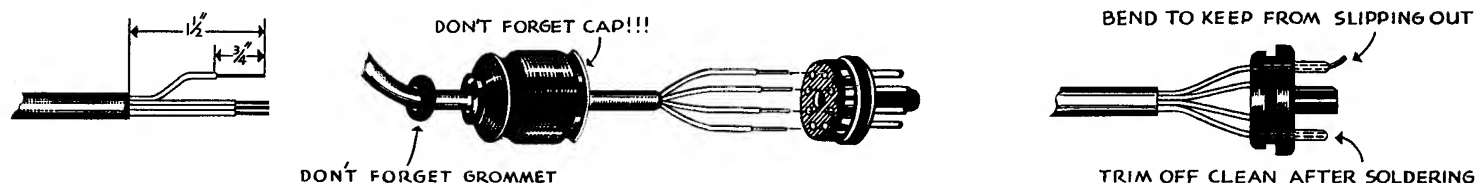

Figure 6
- ✂ Connect a 1 K Ω resistor (brown-black-red) between lug D1 (NS) and pin 5 (S) on socket V4.
- ✂ Connect a 100 Ω resistor (brown-black-brown) between terminal strip B (S) and control lug J1 (NS).
- ✂ Connect a 100 K Ω resistor (brown-black-yellow) between control lug J1 (S) and lug C1 (NS) (use sleeving).
- ✂ Connect a 1 K Ω resistor (brown-black-red) between lug C1 (NS) and pin 5 (S) on socket V3.
- ✂ Connect one of the matched pair of 47 K Ω 2 watt resistors (large yellow-purple-orange) between lug C2 (S) and pin 2 (NS) on socket V2.
- ✂ Connect a .25 μ fd (large tubular) condenser between pin 2 (S) on socket V2 and lug C1 (S) (use sleeving). Again note that "outside foil," if marked, may be disregarded.
- ✂ Connect the other 47 K Ω 2 watt resistor (large yellow-purple-orange) of the matched pair between lug D2 (S) and pin 5 (NS) on socket V2.
- ✂ Connect a .25 μ fd condenser between pin 5 (S) on socket V2 and lug D1 (S) (use sleeving).
- ✂ Connect a .05 μ fd condenser between pin 5 (S) on socket V1 and pin 1 (S) on socket V2.
- (X) Connect another .05 μ fd condenser between pin 6 (S) on socket V1 and pin 4 (S) on socket V2.
- (X) Install the octal plug on the end of the cable. Remove the overall insulation for about 1 1/2". Remove the insulation from each wire for about 3/4". Slip the plug cap on the cable with the grommet toward the chassis end. Arrange the wires in a circle and slip wire ① in the hole marked 1, wire ② in the hole marked 2, etc. Make sure the wire sticks out beyond the pin. Bend the wire over to keep it from slipping out. See Figure 6.